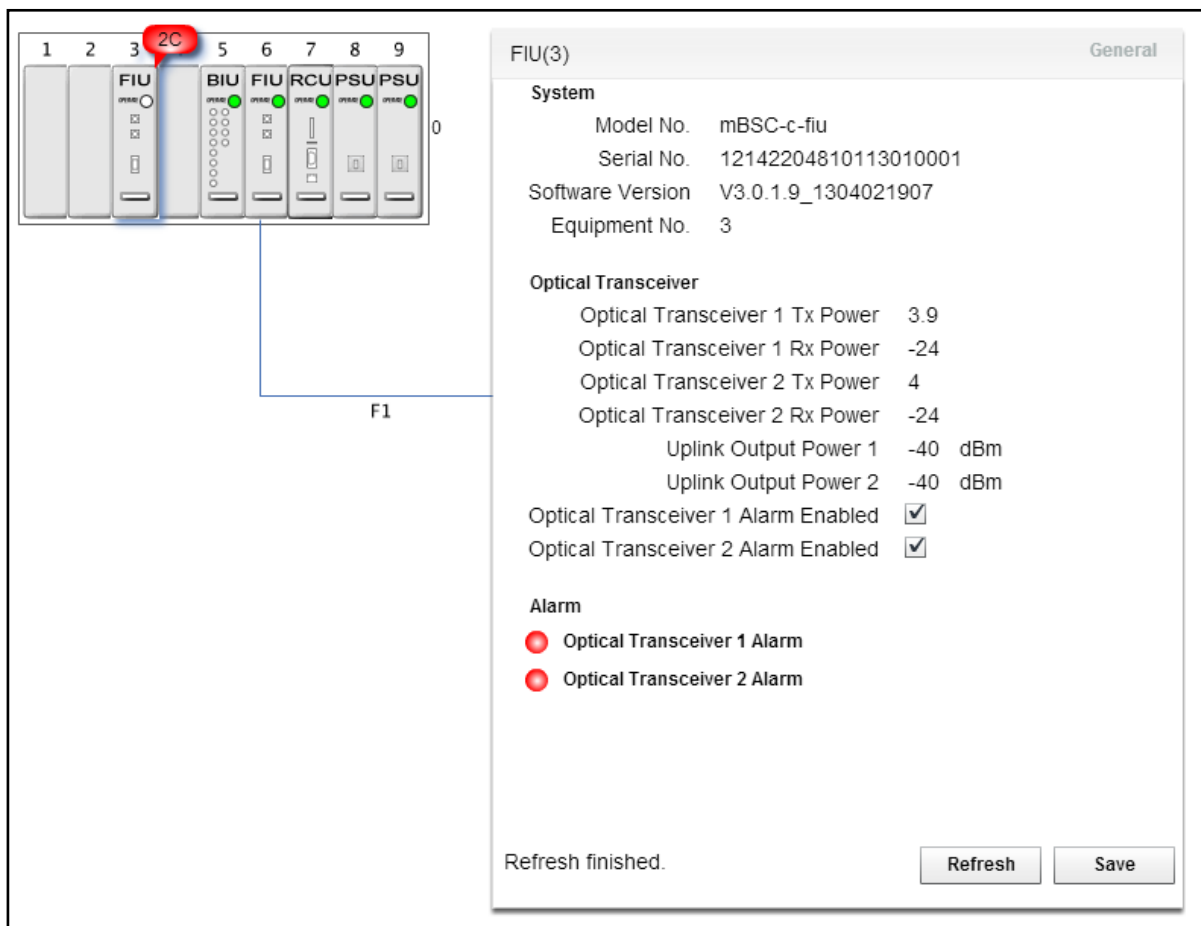

Figure 50 - Host Unit Alarm Status
1. Click on the BIU in the topology diagram and the component window will pop up on the right as shown in Figure 50 - BIU Attenuator.